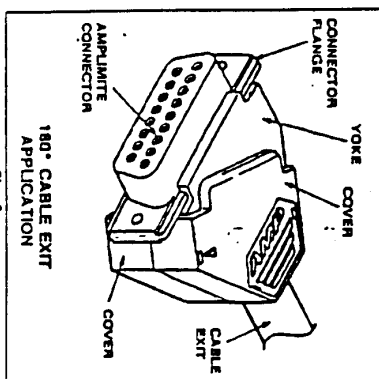

Fig. 2
4. Depending on the cable-exit orientation you desire (left or right angle), lay the yoke and connector assembly in the cover. See Figures 2 and 3.